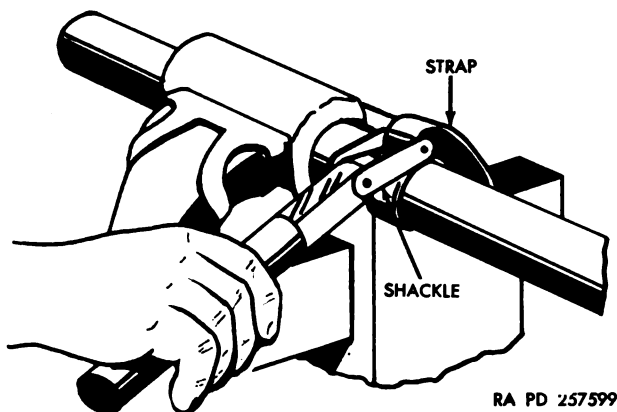

Figure 129. Using a strap pipe wrench.
- (2) *Adjustable strap pipe wrench.* When using the adjustable strap pipe wrench, loop the strap around the pipe in the opposite direction to that in which the pipe is to be rotated (fig. 129). Slip the end of the strap through the shackle and draw it up tightly. Pull the handle to turn the pipe in the desired direction. The jaw at the end of the shackle will seat against the strap, and as the handle is pulled, the strap will tighten and turn the pipe.
- (3) *Adjustable chain pipe wrench.* The adjustable chain pipe wrench is used in the same manner as the strap wrench. The chain acts as a jaw when looped around the pipe, gripping